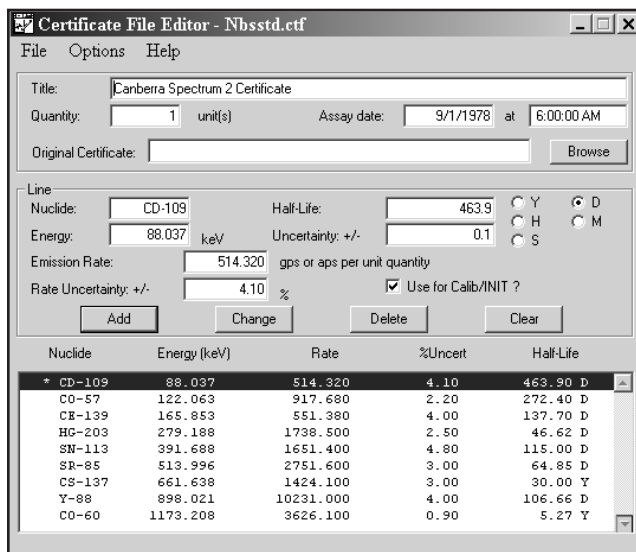

Figure 145 Editing a Certificate File
Select the **File | Open** command to load a Certificate File, then select the NBSSTD.CTF file. The result will be the screen in Figure 145.
6. **Uncertainty.** This is the uncertainty of that half-life, expressed in the same units as the half-life. For example, in Figure 145 the data shown would be read as “The half-life is 463.9 Days plus or minus 0.1 Days.”